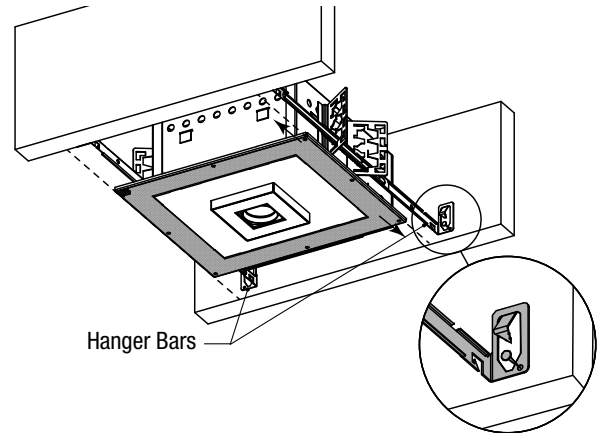

FIGURE 2
Step 1. Extend HANGER BARS to fit between joist and position mounting tab tight to joist or frame member. **Fig 2**. Hanger bars should be level at a height positioned to allow for a finished trim to ceiling.